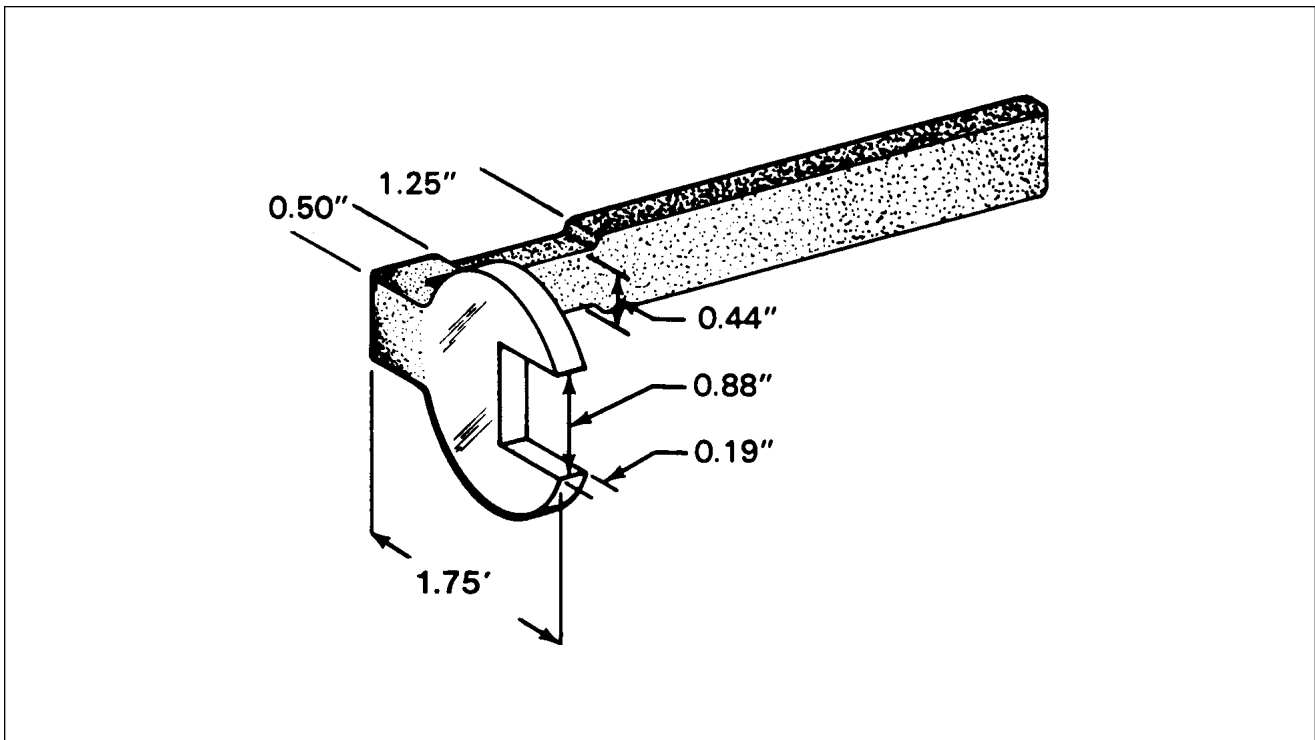

Figure 52-2. Fabricated Tool for Baggage Door Lock
- a. With door open remove nut from back of lock assembly with a special made wrench. (The tool may be fabricated per dimensions in Figure 52-2.)